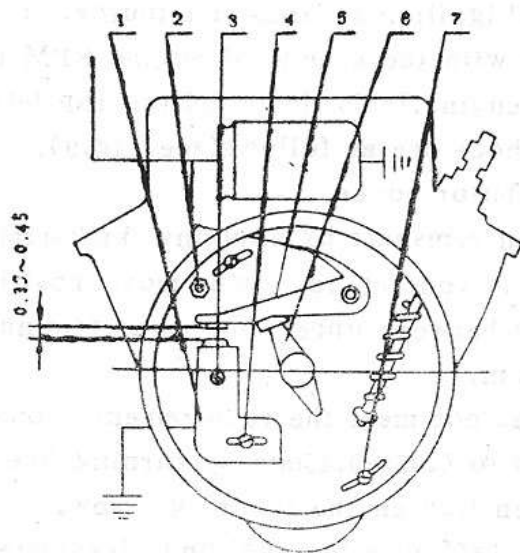

Fig. 8 Schematic Diagram of Distributor FDQ—1
4.3.1 The distributor of engine CJ-750, installed in the front end cover of crankcase, is of FDQ-1 type, whose contact gap is adjusted as follows (see Fig.8).
a. Loosen slightly the securing bolt in the distributor bottom plate (see Figs 8 and 9) and connect parallelly an indicating light across distributor capacitor. Turn on ignition switch, apply gently kickstarter to operate crankshaft to make piston reach the point 0.5~1mm to its upper limit in cylinder. Rotate the distributor till the indicating light just comes on. Then tighten the securing bolt, reoperate the crankshaft to make the indicating light on. Check to see if the piston is 0.5~1mm to its upper limit in cylinder. If it is not, it should be readjusted.